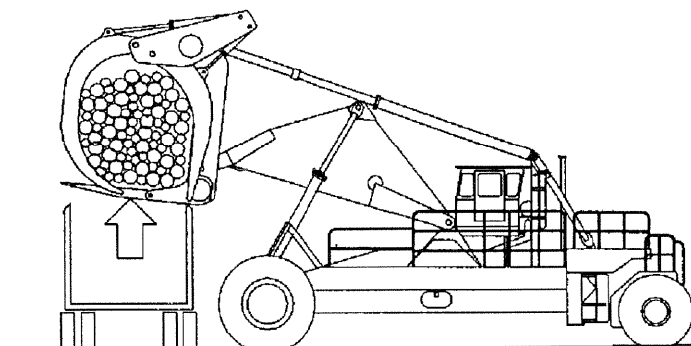

Fig 4-5
5. Hoist the load clear of the truck or trailer and tilt the carriage back slightly to bring the load center closer to the drive wheel axle. See Fig. 4-5.